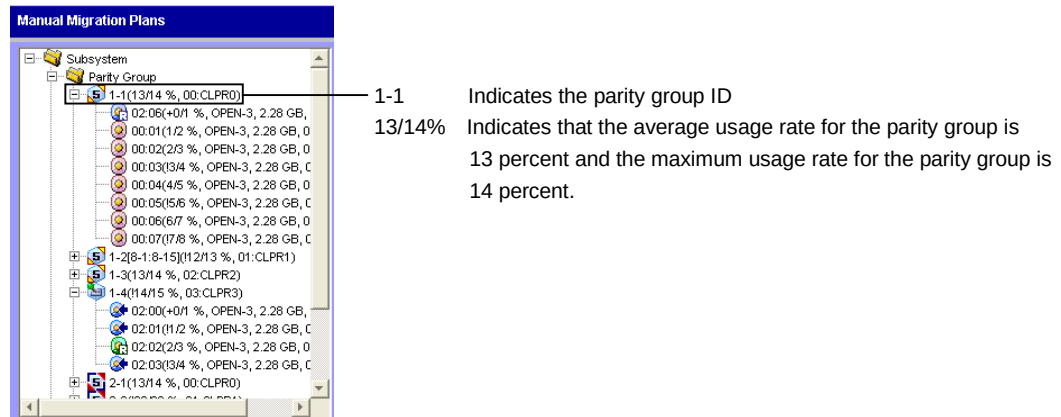

Figure 3.4 Parity Group Usage Example
4. Choose a low-usage parity group from the fast parity groups. You can find low-usage volumes in the **Volume Migration** window (see Figure 3.4).